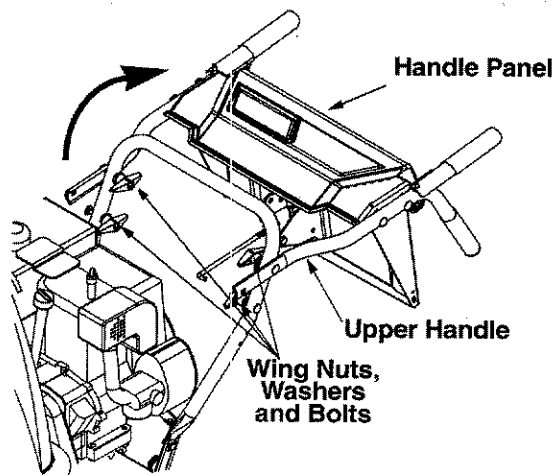

Figure 2
- Remove the **lower** plastic wing nut, cupped washer and carriage bolt from each side of the lower handle. See Figure 2.
- Raise the upper handle assembly in the direction shown in Figure 2. Make sure that the upper handle locks into position over the lower handle.